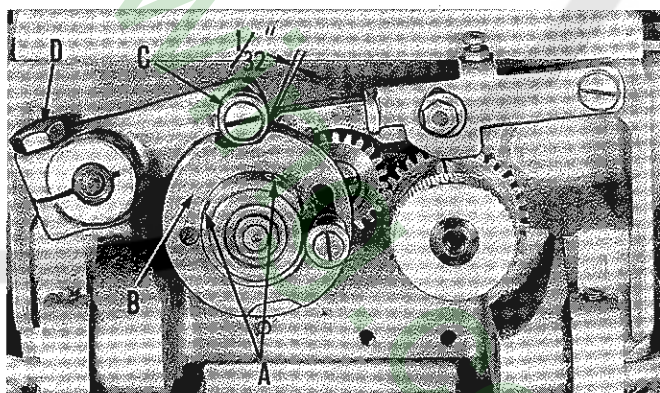

Fig. 2
With the machine in stop position, loosen the two socket head set screws (A, Fig. 2) in stop motion cam (B) and rotate cam to secure  $\frac{1}{32}$  inch clearance between roller (C) and front of slot in cam.
This adjustment is made by loosening clamp screw (D, Fig. 2) in stop motion trip lever and moving lever up or down to secure the  $\frac{3}{32}$  inch clearance. Should it be necessary to move lever down, depress the treadle while making adjustment.